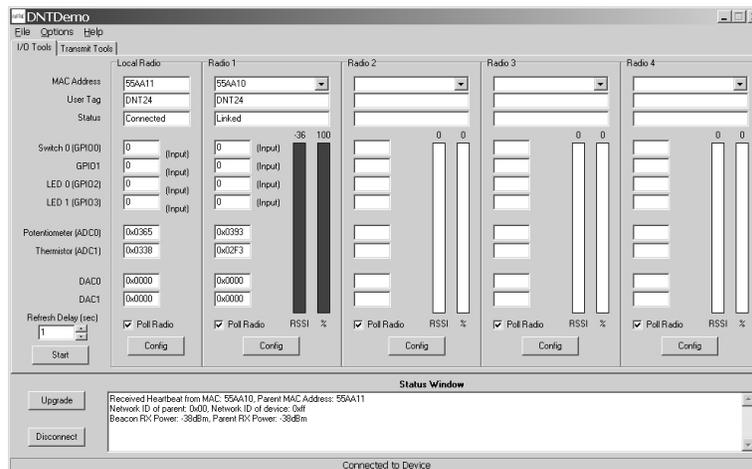

Figure 7
- The Demo will display data on the *Remote* in the *Radio 1* column, including bar graphs of *RSSI* (signal strength) and *percent* packet success rate, as shown in Figure 7. Adjusting the pot on the *Remote* can be observed in the *Potentiometer (ADC0)* data. You can change the *Refresh* setting from the drop down menu at the bottom left. Adjusting the pot on the base can be observed in the *Potentiometer (ADC0)* data in the *Local Radio* column.